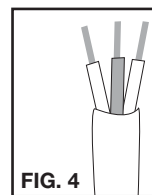

FIG. 4
- Inside of the wire are two (2) white wires and one (1) gray wire (See **FIG. 4**); To expose the solid copper wire, cut approximately 3/8" on each of the three wires.